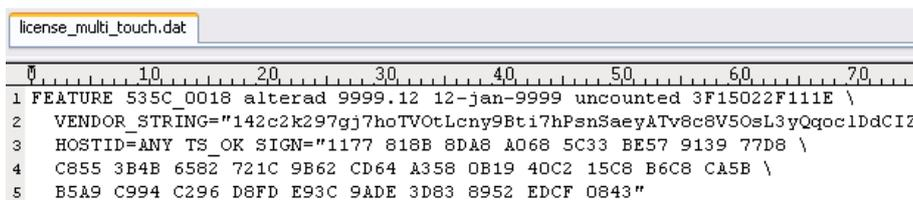

Figure 1-3 Content of license_multi_touch.dat
1. The license contains the FEATURE lines required to license the IP Cores as shown in **Figure 1-3**.